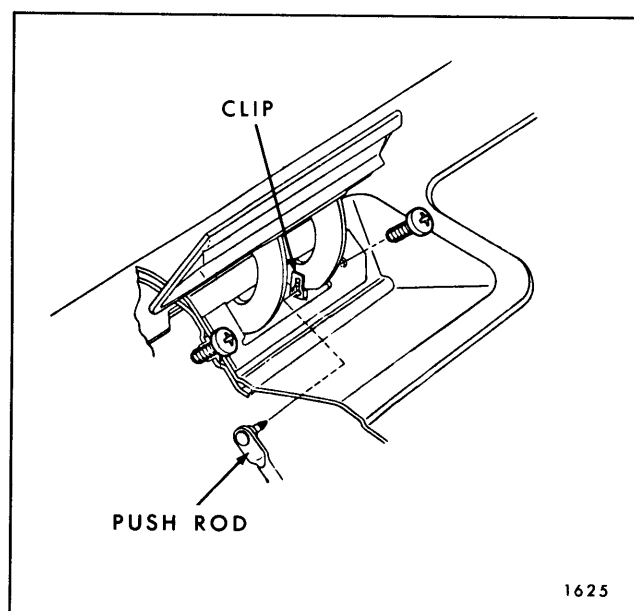

Fig. 9-15—Tail Gate Inside Handle Attachment
1. Raise inside handle and disengage remote push rod from spring clip (See Fig. 9-15).